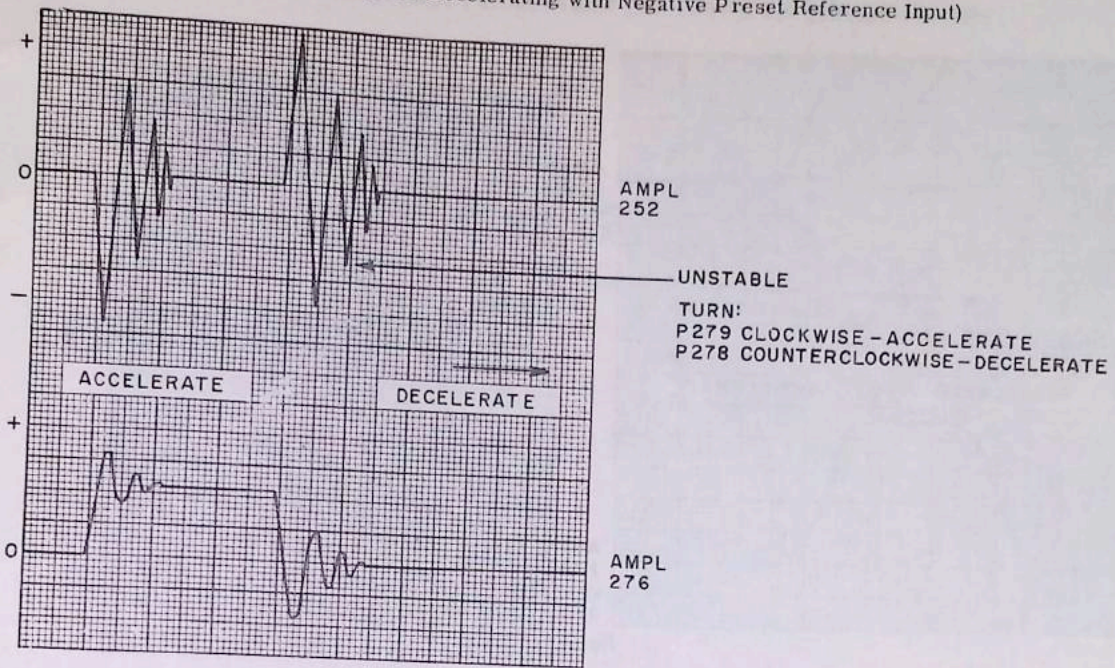

Fig. 2.
3. Apply the preset reference voltage. If the system is unstable (see Fig. 2), turn P279 clockwise until the system is stable.
4. Short the preset reference voltage. If the system is unstable (see Fig. 2), turn P278 counterclockwise until the system is stable.
7. Apply the preset reference and compare the strip-chart recordings obtained to Figs. 2 through 7.
8. Make any necessary adjustments, as indicated by Figs. 2 through 7.
9. Short the preset reference and compare the strip-chart recordings to Figs. 2 through 7.
10. Make any necessary adjustments, as indicated by Figs. 2 through 7.
3. Compare the strip-chart recordings to Figs. 2 through 7 after each adjustment and make further adjustments accordingly.
Start by applying and removing the preset reference voltage and observing the output of each amplifier (251, 252, 276). The outputs of each amplifier should record a chart similar to Figs. 2 through 7. Under normal operating conditions, AMPL276 or 252 should never exceed approximately 10 volts in either direction. AMPL251 should never exceed 17 volts. The polarity of the controlled output voltage is opposite to that of the preset reference. If an amplifier is suspected, check the components (including the wiring) connected to this one. Interchanging the suspected amplifier with one of the others is a good way of determining whether the amplifier or the components are at fault.